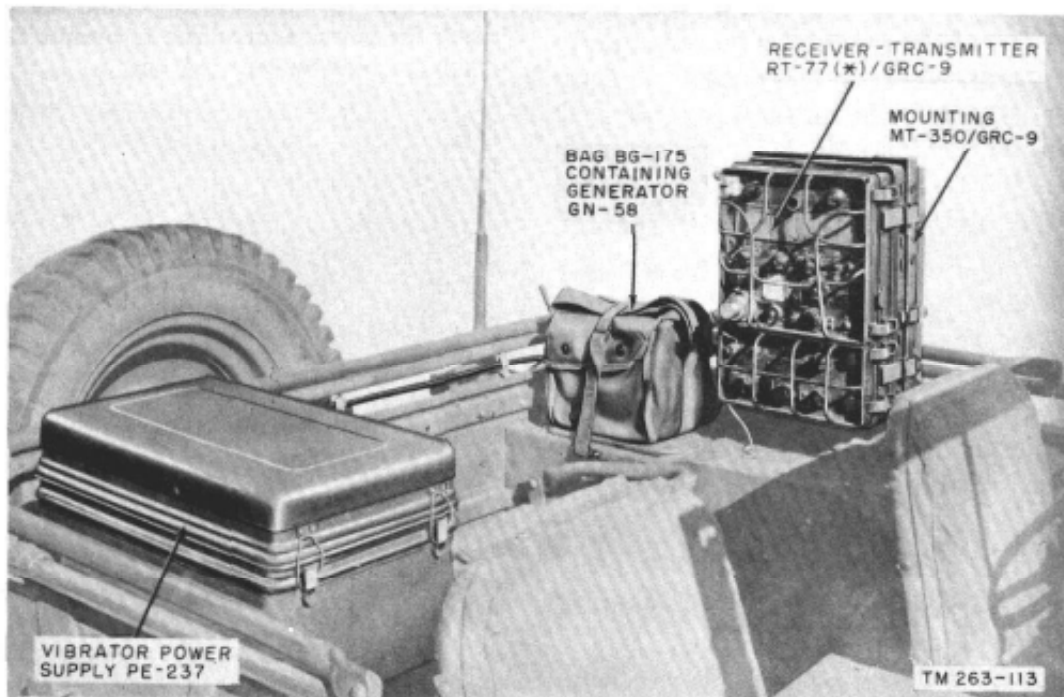

Figure 34. Typical vehicular installation of radio set.
### 34. Vehicular Installation of Radio Set (fig. 34)
- (1) Bolt the vibrator power supply (fig. 34) to a horizontal surface, leaving clearance to permit free movement of the power unit on its shock mounts. The location should be selected to permit the power cables to reach the vehicle power terminal box and to permit Cord CD-1086 to reach the receiver-transmitter (fig. 34).